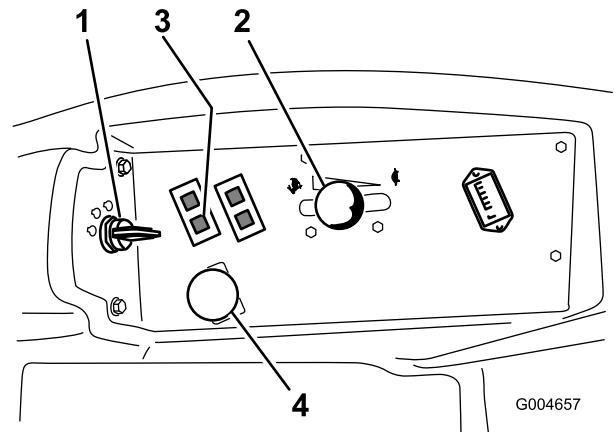

Figure 12
4. Move the PTO (power take off) switch to the off position (Figure 12).
5. Move the throttle lever midway between the Fast and Slow positions (Figure 12).